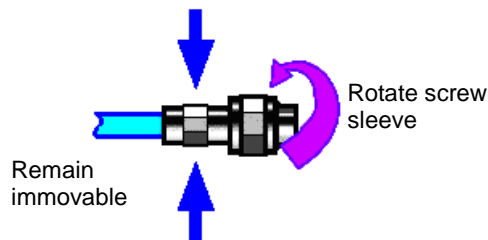

Figure 4-2 Connection method
b) Move the two connectors together straightly so that they can engage smoothly. Rotate the screw sleeve of the connector (note not to rotate the connector itself) until it is tightened. There should be no relative rotation between the connectors during the connection. As shown in Figure 4-2: